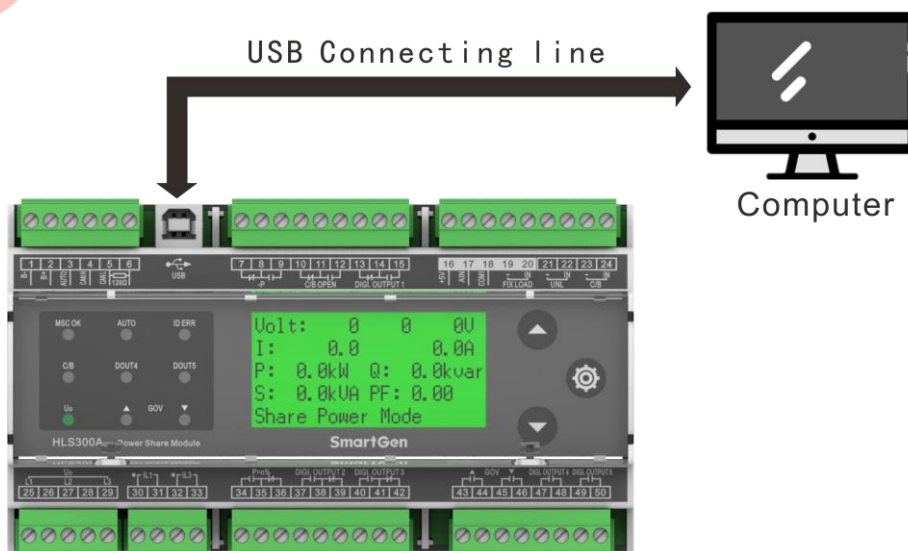

Fig. 2 - PC Programming Connection Type
**NOTE:** About PC programming connection, please connect PC with USB connecting wire. Through the PC software of our company, parameters can be set. Please see Fig. 2.